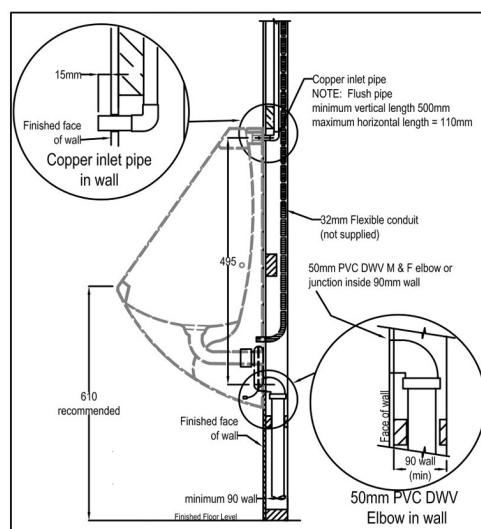

Fig. 2
3. Fit 20mm copper inlet pipe supported rigidly in wall allowing at least 15mm proud of finished wall and remove burr from pipe end (Fig. 2).
6. Install flexible electrical conduit (32mm minimum size, not supplied) free of kinks for sensor extension cable (Fig. 2)